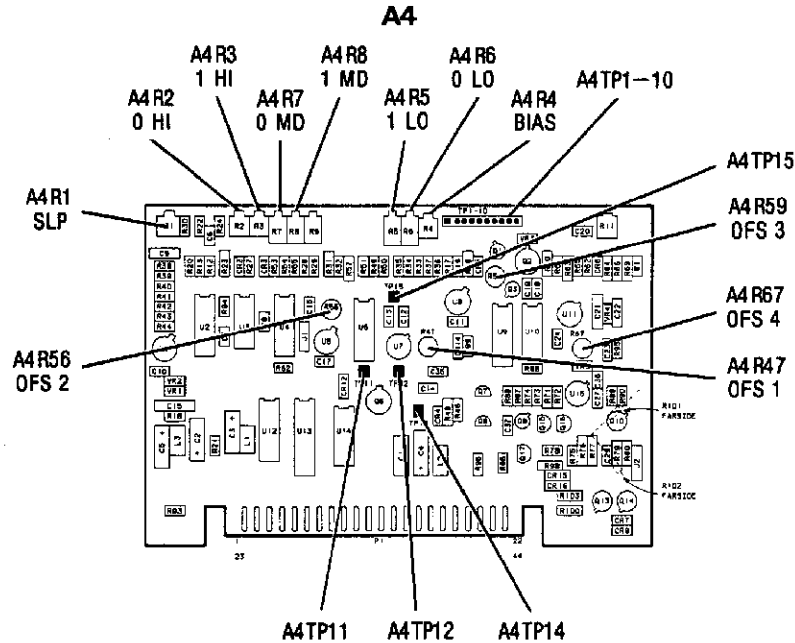

Figure 5-36. ALC Adjustment Locations
2. Float the ground on the Digital Voltmeter and measure the voltage between A4TP12 and A4TP14. Refer to Figure 5-36 for adjustment locations. Adjust A4R47 (OFS 1) for  $0.000 \pm 0.001$  Vdc.